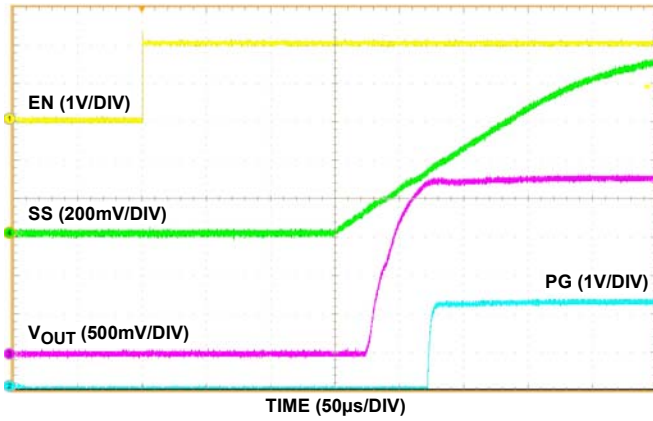

FIGURE 15. ENABLE START-UP SS CAP 1nF
If the current limit for inrush current is acceptable in the application, do not use the soft-start (SS) feature (leave the SS pin open). The soft-start circuit controls the rate at which the output voltage comes up to regulation at power-up or LDO enable. The external soft-start capacitor always gets discharged to ground pin potential at the beginning of start-up or enabling. After the capacitor discharges, it will immediately begin charging by a constant current source. The discharge rate is the RC time constant of  $R_{PD}$  and  $C_{SS}$ . Refer to Figures 15 through 19 in the “Typical Operating Performance Curves” beginning on page 8.  $R_{PD}$  is the ON-resistance of the pull-down MOSFET, M8.  $R_{PD}$  is typically 323 $\Omega$ .